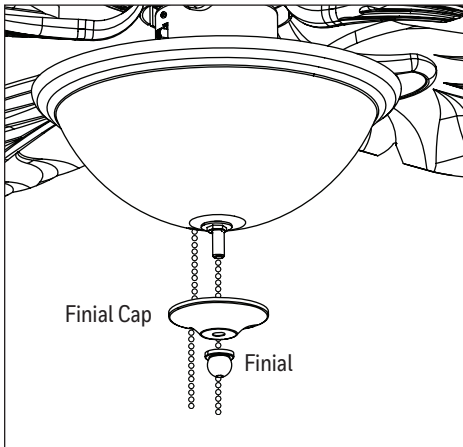

Figure 5.10
10. Feed the pull chains through the appropriate holes in the finial cap. Lift the finial cap up until it is flush with the glass bowl and secure with the finial (Figure 5.10).